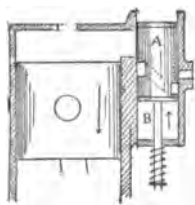
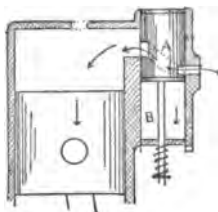
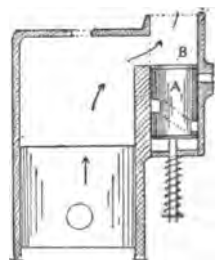

Fig. 8
Fig. 9
Fig. 10
Another form of motor which has been very successful is the *piston-valve* engine shown in Fig. 8. In this motor the valve consists of a small piston (A) sliding in a special chamber (B) on one side of the cylinder. Near the center
of the piston-valve slots are cut through the valves and corresponding to the intake and exhaust openings in the cylinder. As the piston proper commences to travel down on the intake-stroke the valve slides up until the slots are in line with the intake, as shown in Fig. 9. The gas is thus drawn into the cylinder, and as the piston commences its upward compression-stroke the cam which operates the sliding valve allows the latter to drop, thus cutting off the openings and preventing the gas from escaping (Fig. 8). On the following downward or firing stroke the ports remain closed, but as the exhaust-stroke begins the valve slides farther down and leaves a space above it over which the exhaust gases are forced, as shown in Fig. 10.